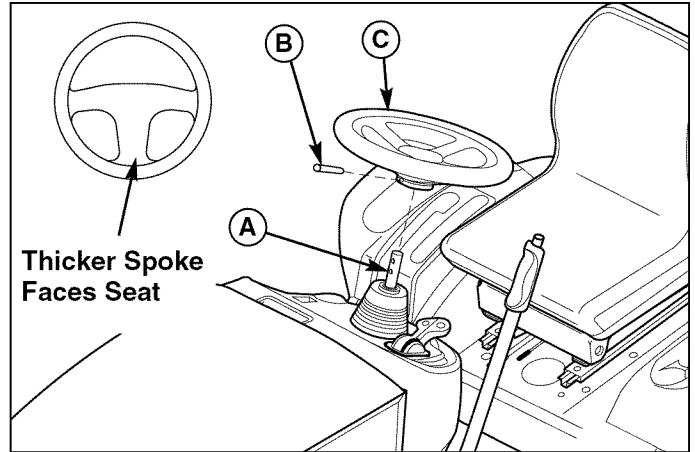

Figure 45. Steering Wheel Components
1. Use a suitable punch to remove the roll pin at the base of the steering wheel (B, Figure 45).
2. Pull down on the rubber boot to expose the two holes in the steering shaft (A).